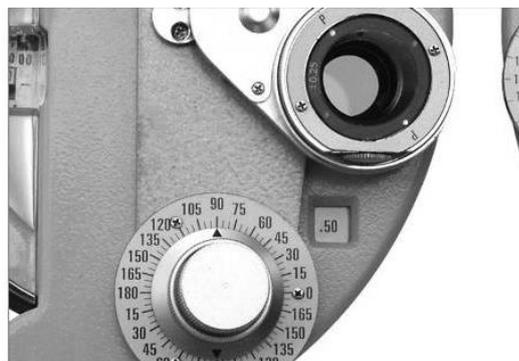

Fig.33
(1) Set cross cylindrical lens ⑳ in front of Testee's right eye and, turning rotation knob ⑲ axially, to align it with axial direction of cylindrical lens (see Fig.33).